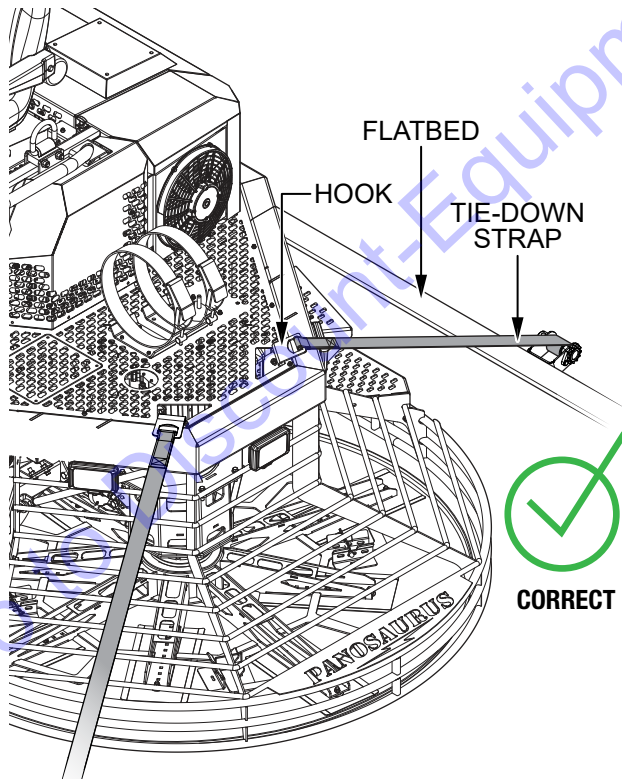
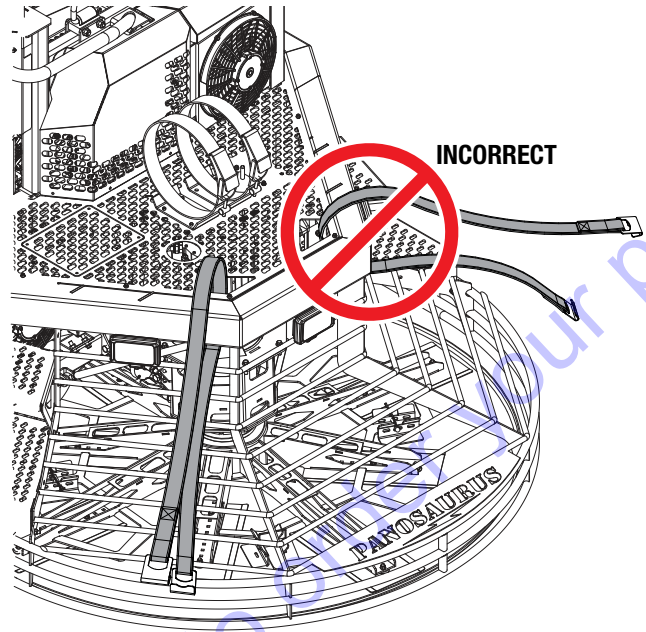

Figure 5. Tie-Down Method (Correct)
Figure 6. Tie-Down Method (Incorrect)
2. Attach suitable tie-down straps to the locations marked by the tie-down symbols. Be sure to connect the tie-down strap hooks directly to the float as shown in Figure 5. **DO NOT** wrap the tie-downs around the frame as shown in Figure 6.
3. Secure the float to a flatbed (Figure 5) with the tie-down straps, making sure they are properly tied to prevent movement of the float during transport.